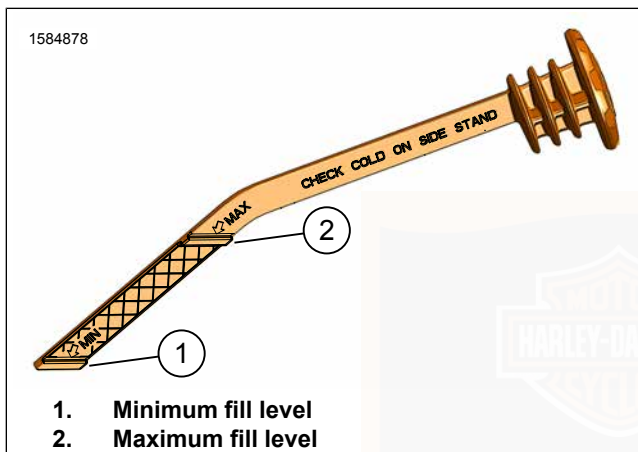

Figure 69. Coolant Filler Cap/Dipstick
4. See Figure 69. Check that coolant level is at the "MAX" line (2).